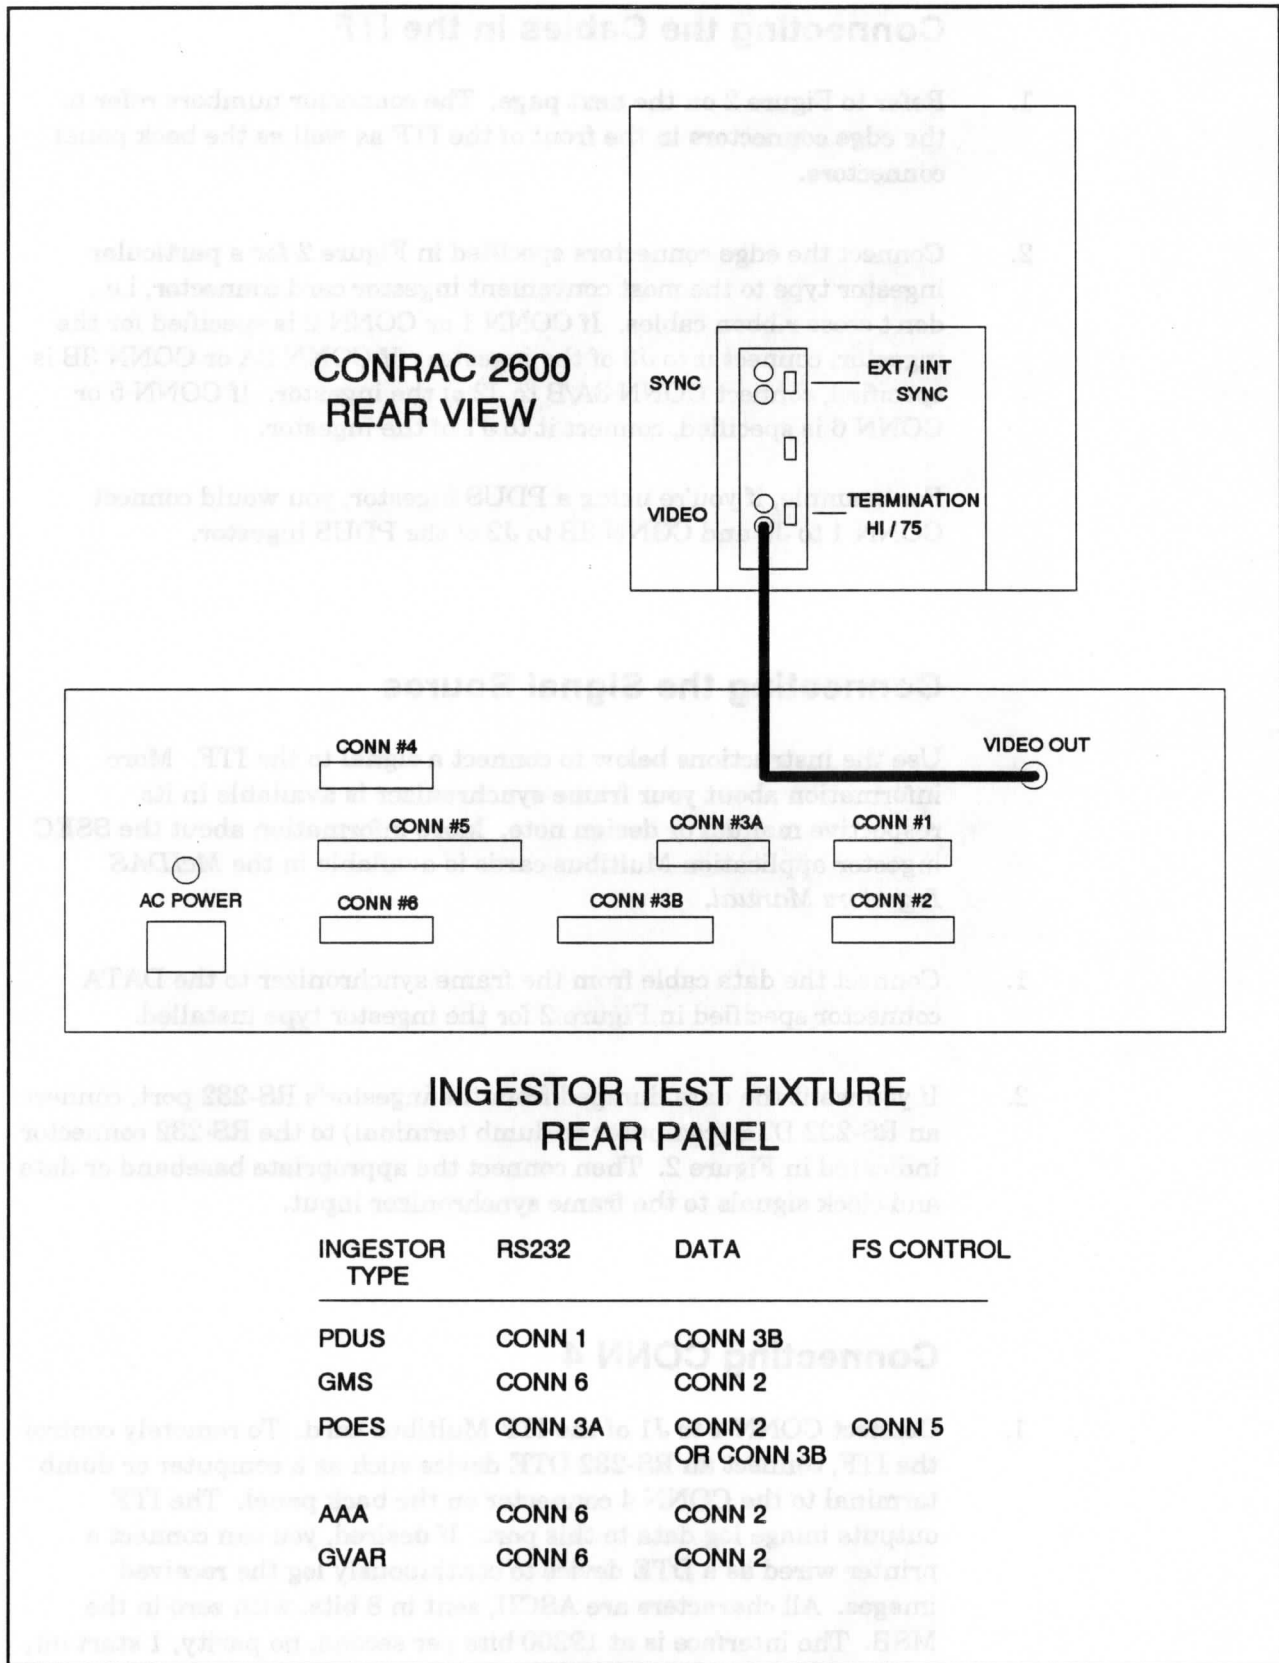

Figure 2. ITF Cable Connections
1. Refer to Figure 2 on the next page. The connector numbers refer to the edge connectors in the front of the ITF as well as the back panel connectors.
2. Connect the edge connectors specified in Figure 2 for a particular ingestor type to the most convenient ingestor card connector, i.e., don't cross ribbon cables. If CONN 1 or CONN 2 is specified for the ingestor, connect it to J3 of the ingestor. If CONN 3A or CONN 3B is specified, connect CONN 3A/B to J2 of the ingestor. If CONN 5 or CONN 6 is specified, connect it to J1 of the ingestor.
1. Connect the data cable from the frame synchronizer to the DATA connector specified in Figure 2 for the ingestor type installed.
2. If you want the data dumped from the ingestor's RS-232 port, connect an RS-232 DTE (computer or dumb terminal) to the RS-232 connector indicated in Figure 2. Then connect the appropriate baseband or data and clock signals to the frame synchronizer input.